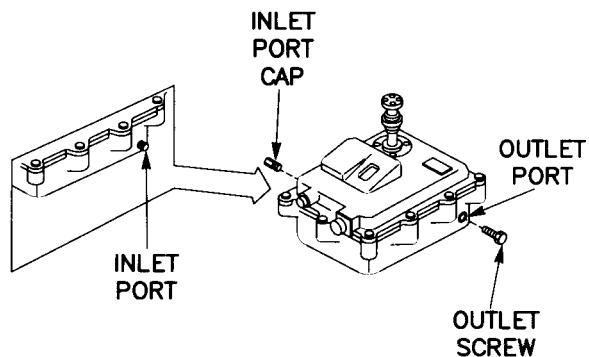

Figure 3-8 Output Unit
e. Output Unit (fig. 3-8). Refer to para 3-5.a. for procedures.